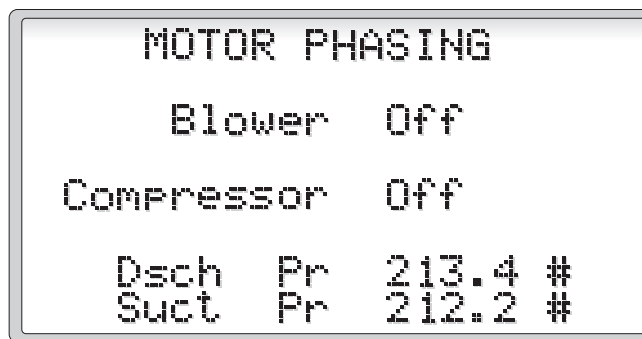

Figure 34
2.3.3.2.3 Motor Phasing (Figure 34)
Selecting the MOTOR PHASING from the Commissioning Menu displays the MOTOR PHASING screen to be shown, (Figure 34). Turning the Blower on will run the blower for 1 second to allow for the motor rotation to be checked. This is required for units connected to 3 phase electrical power. Turning the compressor on will run the compressor for 3 seconds. The discharge and suction pressure are shown on this screen for a check of the current compressor rotation.